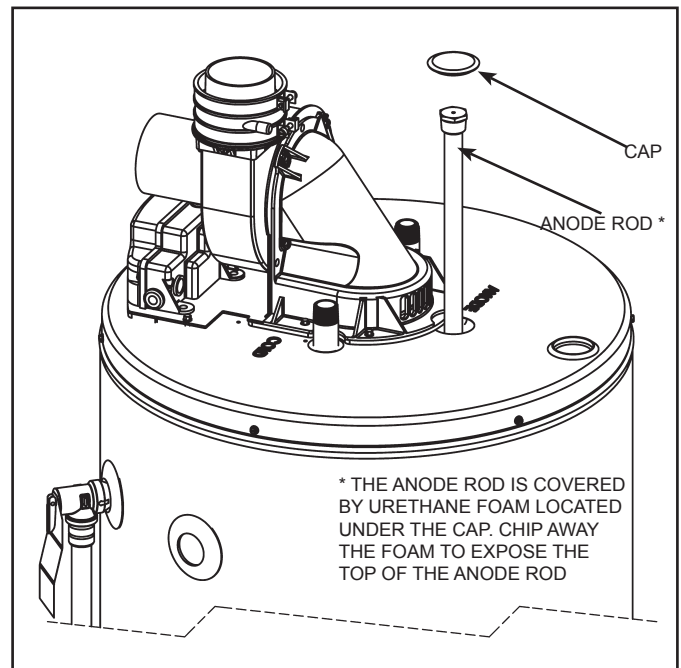

Figure 4. Removing the Anode Cap and Anode Rod
6. Remove and retain the anode cap on top of the heater and remove and retain just enough insulation so you can access to the anode head. See **Figure 4**. Keep in a safe place for reinstallation later.
7. Remove the anode rod by using a ratchet and a 1-1/16" socket turning counter-clockwise. See **Figure 4**.